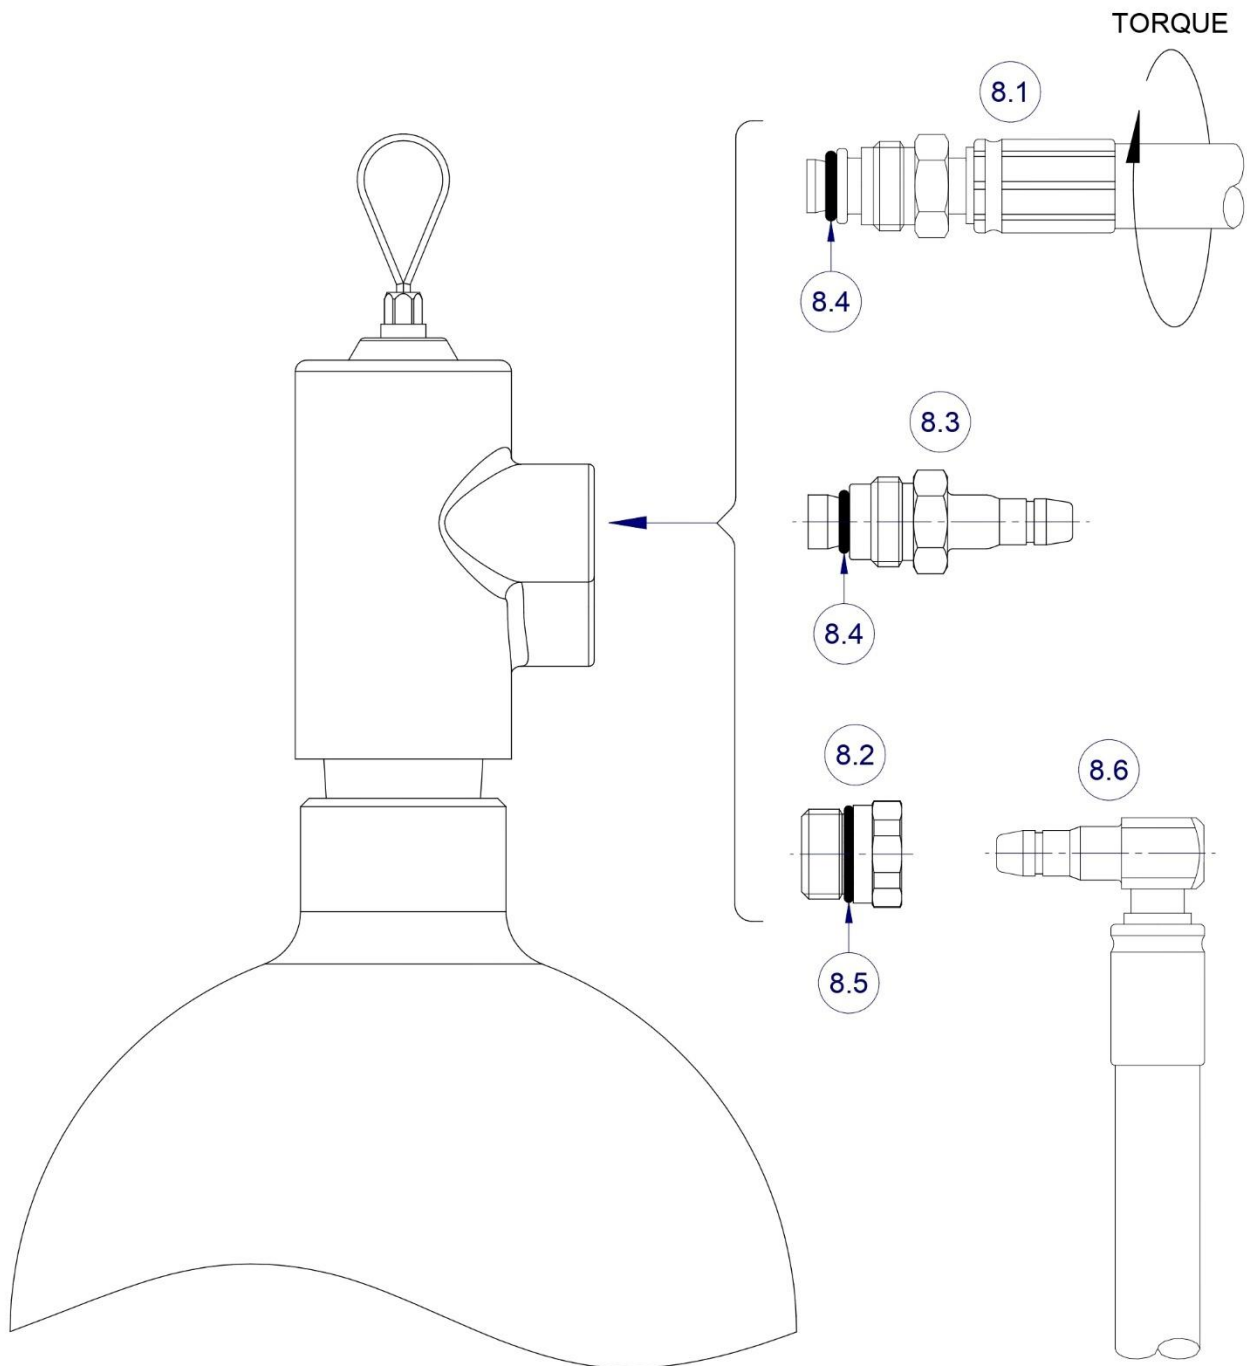

FIG 8
Fig.8 refers.
- Hose (Item 8.1, Fig.8). Check the 'O' Ring Seal (Item 8.4, Fig.8) is installed on the hose and tighten to a torque of 12.2 Nm (9ftLb).
- Quick Connect Coupling (Item 8.3, Fig.8). Check the 'O' Ring Seal (Item 8.4, Fig.8) is installed on the fitting and tighten to a torque of 12.2 Nm (9ftLb).
- M16 Nut for push fit hose options (Item 8.2, Fig.8). Check the 'O' Ring Seal (Item 8.5, Fig.8) is installed and tighten to a torque of 20Nm (15ftLb).
Note: See Spares Parts List, Section 14 for items 8.1-8.6 in Fig.8.
CAUTION: WHEN REFITTING A PREVIOUSLY USED HOSE OR QUICK CONNECT COUPLING, A NEW 'O' RING SEAL MUST BE USED (Item 8.4, Fig.8 and Spare Parts List, Section 14).
CAUTION: WHEN REFITTING A PREVIOUSLY USED M16 NUT, A NEW 'O' RING SEAL MUST BE USED (Item 8.5, Fig.8 and Spare Parts List, Section 14).
WARNING: IF USING ONE OF THE PUSH-FIT HOSE OPTIONS (Item 8.6, Fig.8), PUSH FULLY INTO THE M16 NUT, (Item 8.2 Fig.8) THEN PULL AND TWIST TO ENSURE THAT THE FITTING IS CORRECTLY ENGAGED. FAILURE TO DO THIS COULD RESULT IN INFLATION FAILURE OR SEVERE PERSONAL INJURY.